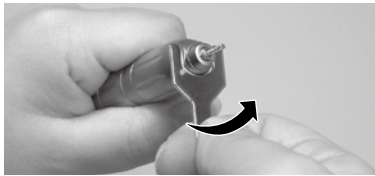

Fig. 10
- ① Fit the cartridge wrench supplied with the handpiece to the flats on the handpiece nose. Turn the cartridge wrench as shown in (Fig.10) after it is loosened, unscrew the nose with fingers and remove from the handpiece.
- ② Before inserting a new cartridge, clean the head interior.
- ③ Finally, securely tighten the cartridge by turning it in the reverse direction to removal.